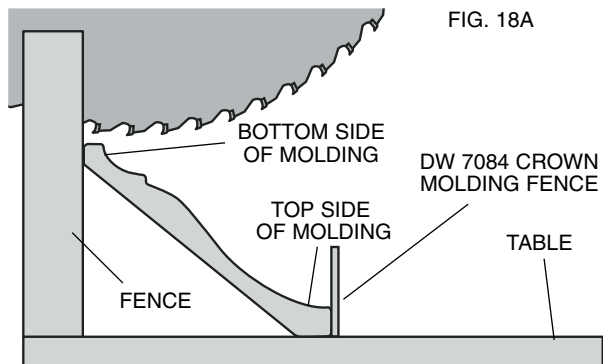

FIG. 18A
Place the molding on the table at an angle between the fence and the saw table, as shown in Figure 18A. Use of the crown molding fence accessory (DW7084) is highly recommended because of its degree of accuracy and convenience. The crown molding fence accessory is available for purchase from your local dealer.
1. Angle the molding so the bottom of the molding (part which goes against the wall when installed) is against the fence and the top of the molding is resting on the base of the saw, as shown in Figure 18A.